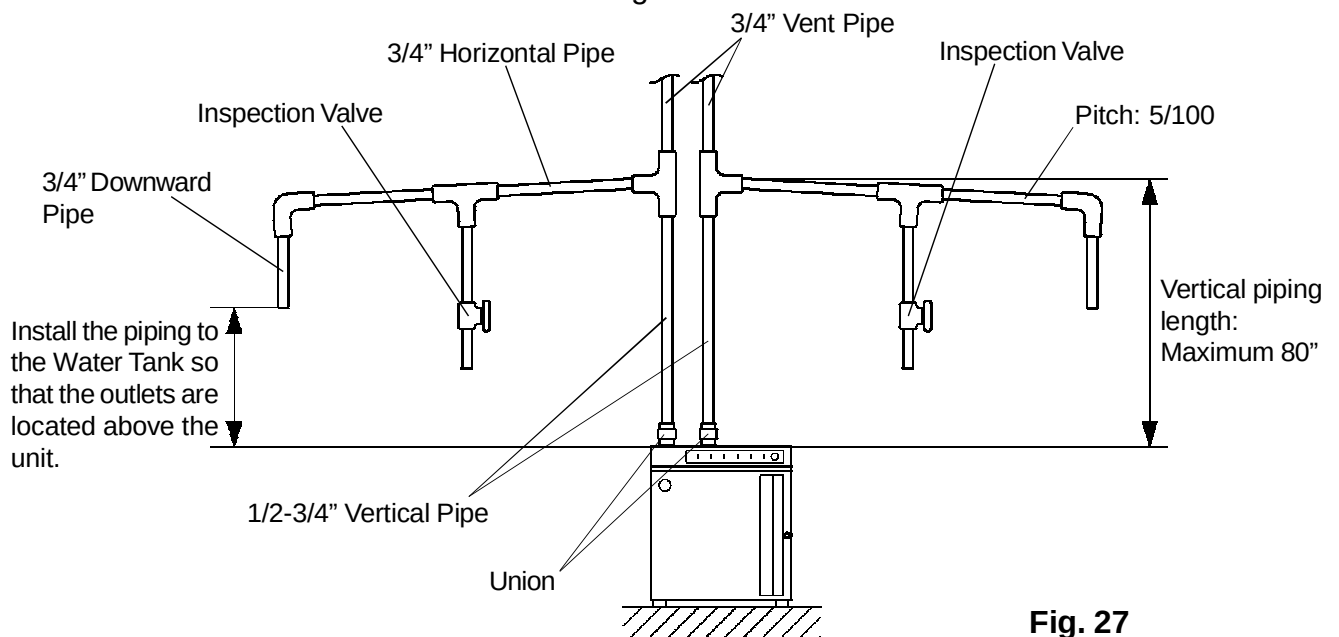

Fig. 27
Note: The vertical length of the pipes for electrolytic water should be a maximum of 80". The electrolytic water may not be able to flow or the flow rate may not be maintained if the piping length is outside of this range. Install the piping to the Water Tank so that the outlets are located above the unit. The difference in the gas amount between acid water and alkaline water may change the flow rate balance and cause poor performance. Use unions between the pipes and the unit so that the hoses can be removed from the unit easily. See Fig. 27.
Note: Use 1/2-3/4" pipes for vertical piping and 3/4" for horizontal piping and vent piping. This can reduce the influence of scale in the alkaline water pipe and help stabilize the amount of alkaline water to generate. Also be sure to have about 5/100 pitch (downward) for horizontal piping. See Fig. 27.
* Be sure to install PVC or acid and alkaline resistant inspection valves on the vertical piping to measure acid and alkaline water. See Fig. 27.